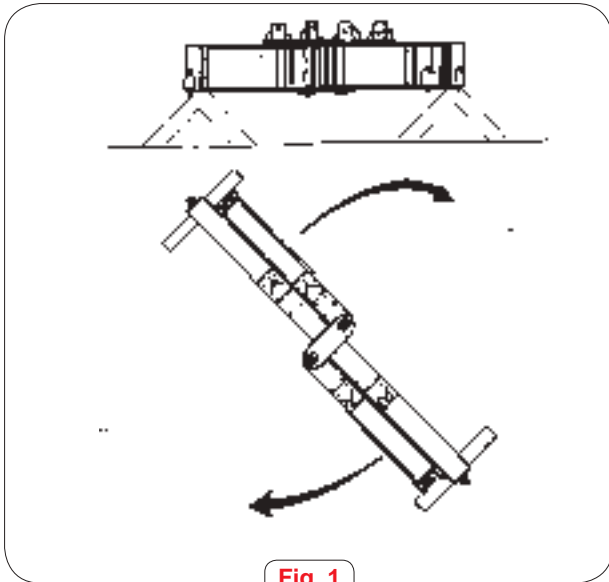

Fig. 1
- 1 Rest base on two ends. (Fig. 1).